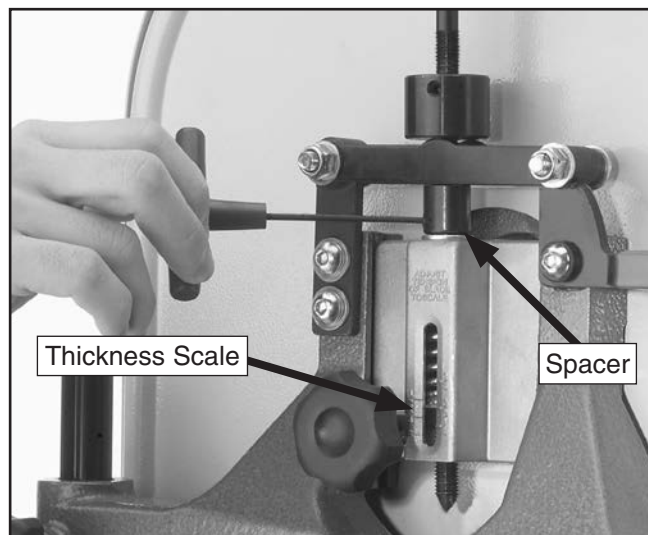

Figure 37. Tensioner adjustment.
- Remove the setscrew in the spacer indicated in **Figure 37**, and rotate the spacer up 5-6 turns.
- Thread the spacer down until it slightly contacts the top of the sliding bracket. Move the spacer back up the shaft about 1-2 turns to leave a small space. Replace the setscrew in the spacer and tighten (**Figure 37**).